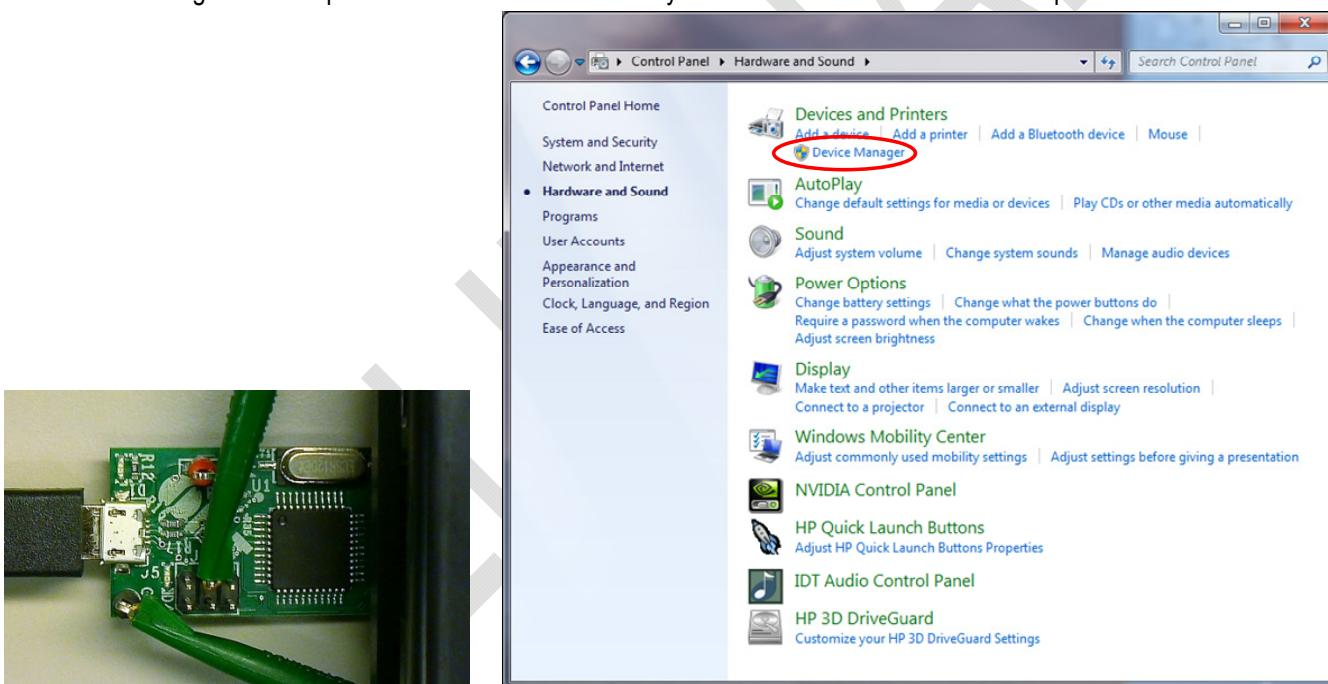
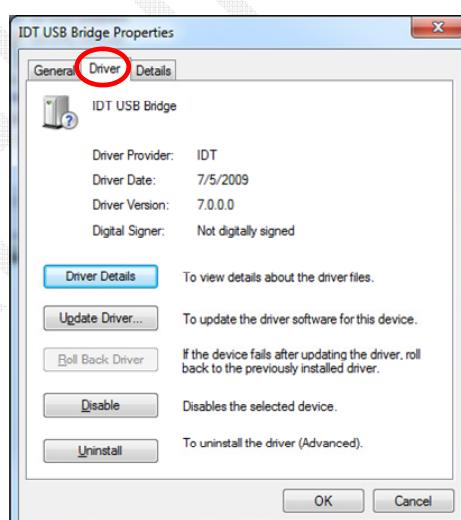
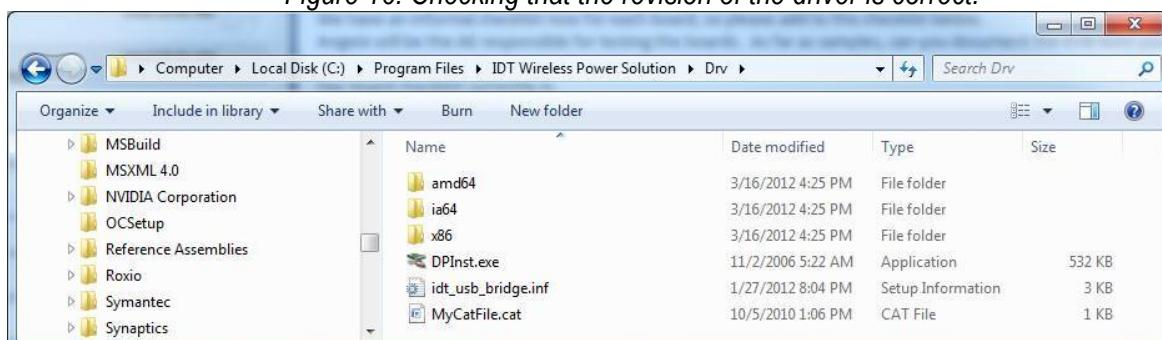

Figure 14. Resetting the JM60. Checking the revision of the driver using Device Manager, shown is a Win7 PC.
Figure 16. Checking that the revision of the driver is correct.
Figure 17. Installed Device Driver Directory.
5. **Update the Driver.** If you have a previous version of the eval tool, the driver will probably need to be updated. The way to check on the version of the driver is to open up the Device Manager as shown in Figure 14. Expand the USB Bridge Devices and double click on it. Click on the Driver Tab, and be sure its' Driver Date is 7/5/2009 and Version is 7.0.0.0. See Figure 16. If it is not version 7.0.0.0 then go to directory C:\Program Files\IDT Wireless Power Solution\Drv as shown in Figure 17 and double click the DPInst.exe file. The system will then go through a driver update install. Be sure to reboot your machine once the install is complete.